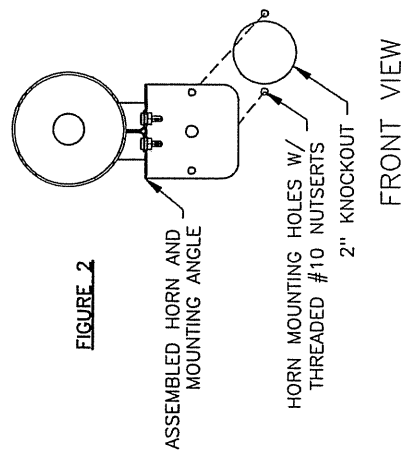

FIGURE 2
*NOTE THAT THE HORN ACCESS PANEL WILL BE A REMOVABLE PANEL ON A TWO SECTION SCOREBOARD OR A DOOR ON A SINGLE SECTION SCOREBOARD. BEFORE PROCEEDING, REMOVE THE REMOVABLE ACCESS PANEL OR OPEN THE DOOR. SEE FIGURE 2 AND 3.
3) TO MOUNT THE HORN MOUNTING ANGLE (WITH ATTACHED HORN), LOCATE THE REMOVED KNOCKOUT AND THE TWO MOUNTING HOLES ON THE SCOREBOARD. REMOVE THE TWO #10 SCREWS FROM THE MOUNTING HOLES AND ATTACH THE HORN MOUNTING ANGLE TO THE SCOREBOARD WHILE FEEDING THE TWO GREY WIRES THROUGH THE KNOCKOUT. SEE FIGURE 2.
1) THE 2" KNOCKOUT WILL HAVE TO BE REMOVED TO MOUNT THE HORN. LOCATE THE REMOVABLE HORN ACCESS PANEL WITH THE 2" KNOCKOUT (TWO SECTION SCOREBOARDS) OR LOCATE THE DOOR WITH THE 2" KNOCKOUT (SINGLE SECTION SCOREBOARDS). REMOVE THE KNOCKOUT. SEE FIGURE 2.